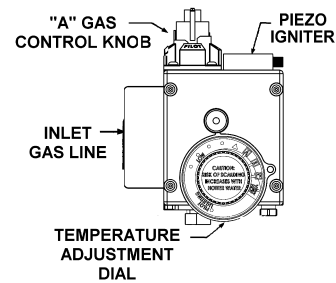

FIGURE 31.
Step 1. Turn gas control knob "A" to "PILOT". Depress and turn "OFF", see Figure 31 page 19.